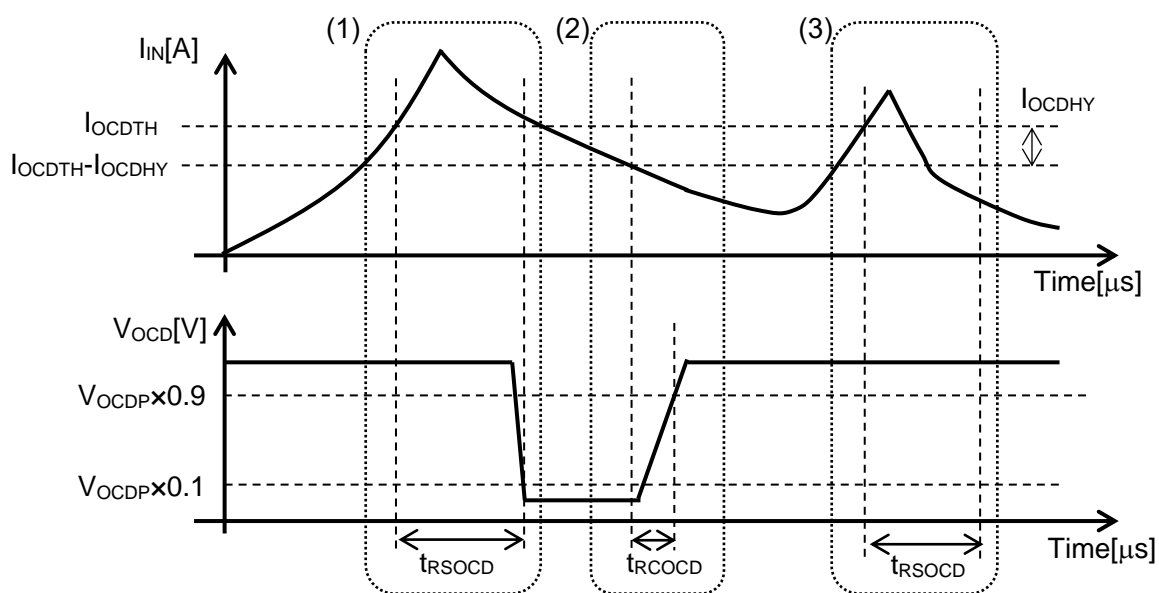

Figure 6. Overcurrent Detection Function of CZ-3A07
10.4. Overcurrent Detection Function is operated as below. (See figure 6.)